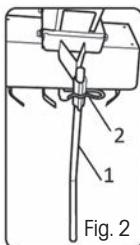

Fig. 2
1. Slide the drag stake (Fig. 2, point 1) through the prepared opening at the rear of the cultivator and secure it in at the required height using a cotter pin (Fig.2, point 2).